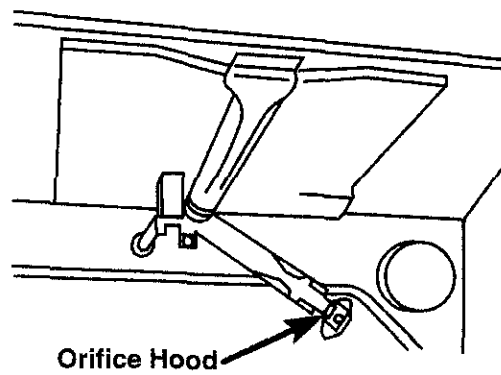

Fig. 29
8. Broil Burner (Fig. 29): Use a ½ inch open-end wrench to turn the orifice hood down snug onto pin (approximately 2 to 2-½ turns). DO NOT OVERTIGHTEN the orifice hood. The burner flame cannot be properly adjusted if this conversion is not made.